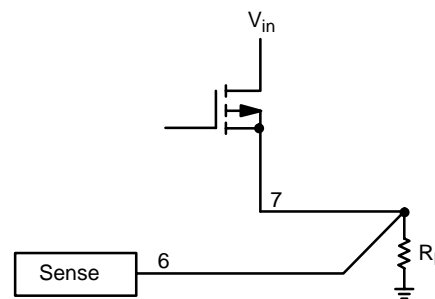

Figure 2.
- See Figure 2. Application Block Diagram.
The SENSE IN pin provides tight regulation of the load voltage while the 5 V supply is present even with varying load current. To take advantage of the SENSE PIN, connect pin 6 as close to the load as possible. Use a separate trace to connect the source of the MOSFET to the load. Refer to Figure 2.